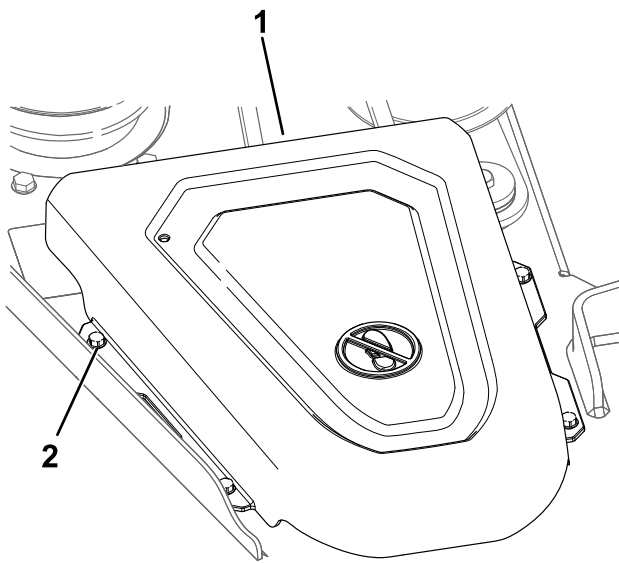

**Figure 51**
3. For 91 cm (36-inch) decks, loosen the 2 bolts for both pulley covers and slide the covers off (Figure 51).
- 9. Install the pulley covers (Figure 51 or Figure 52).